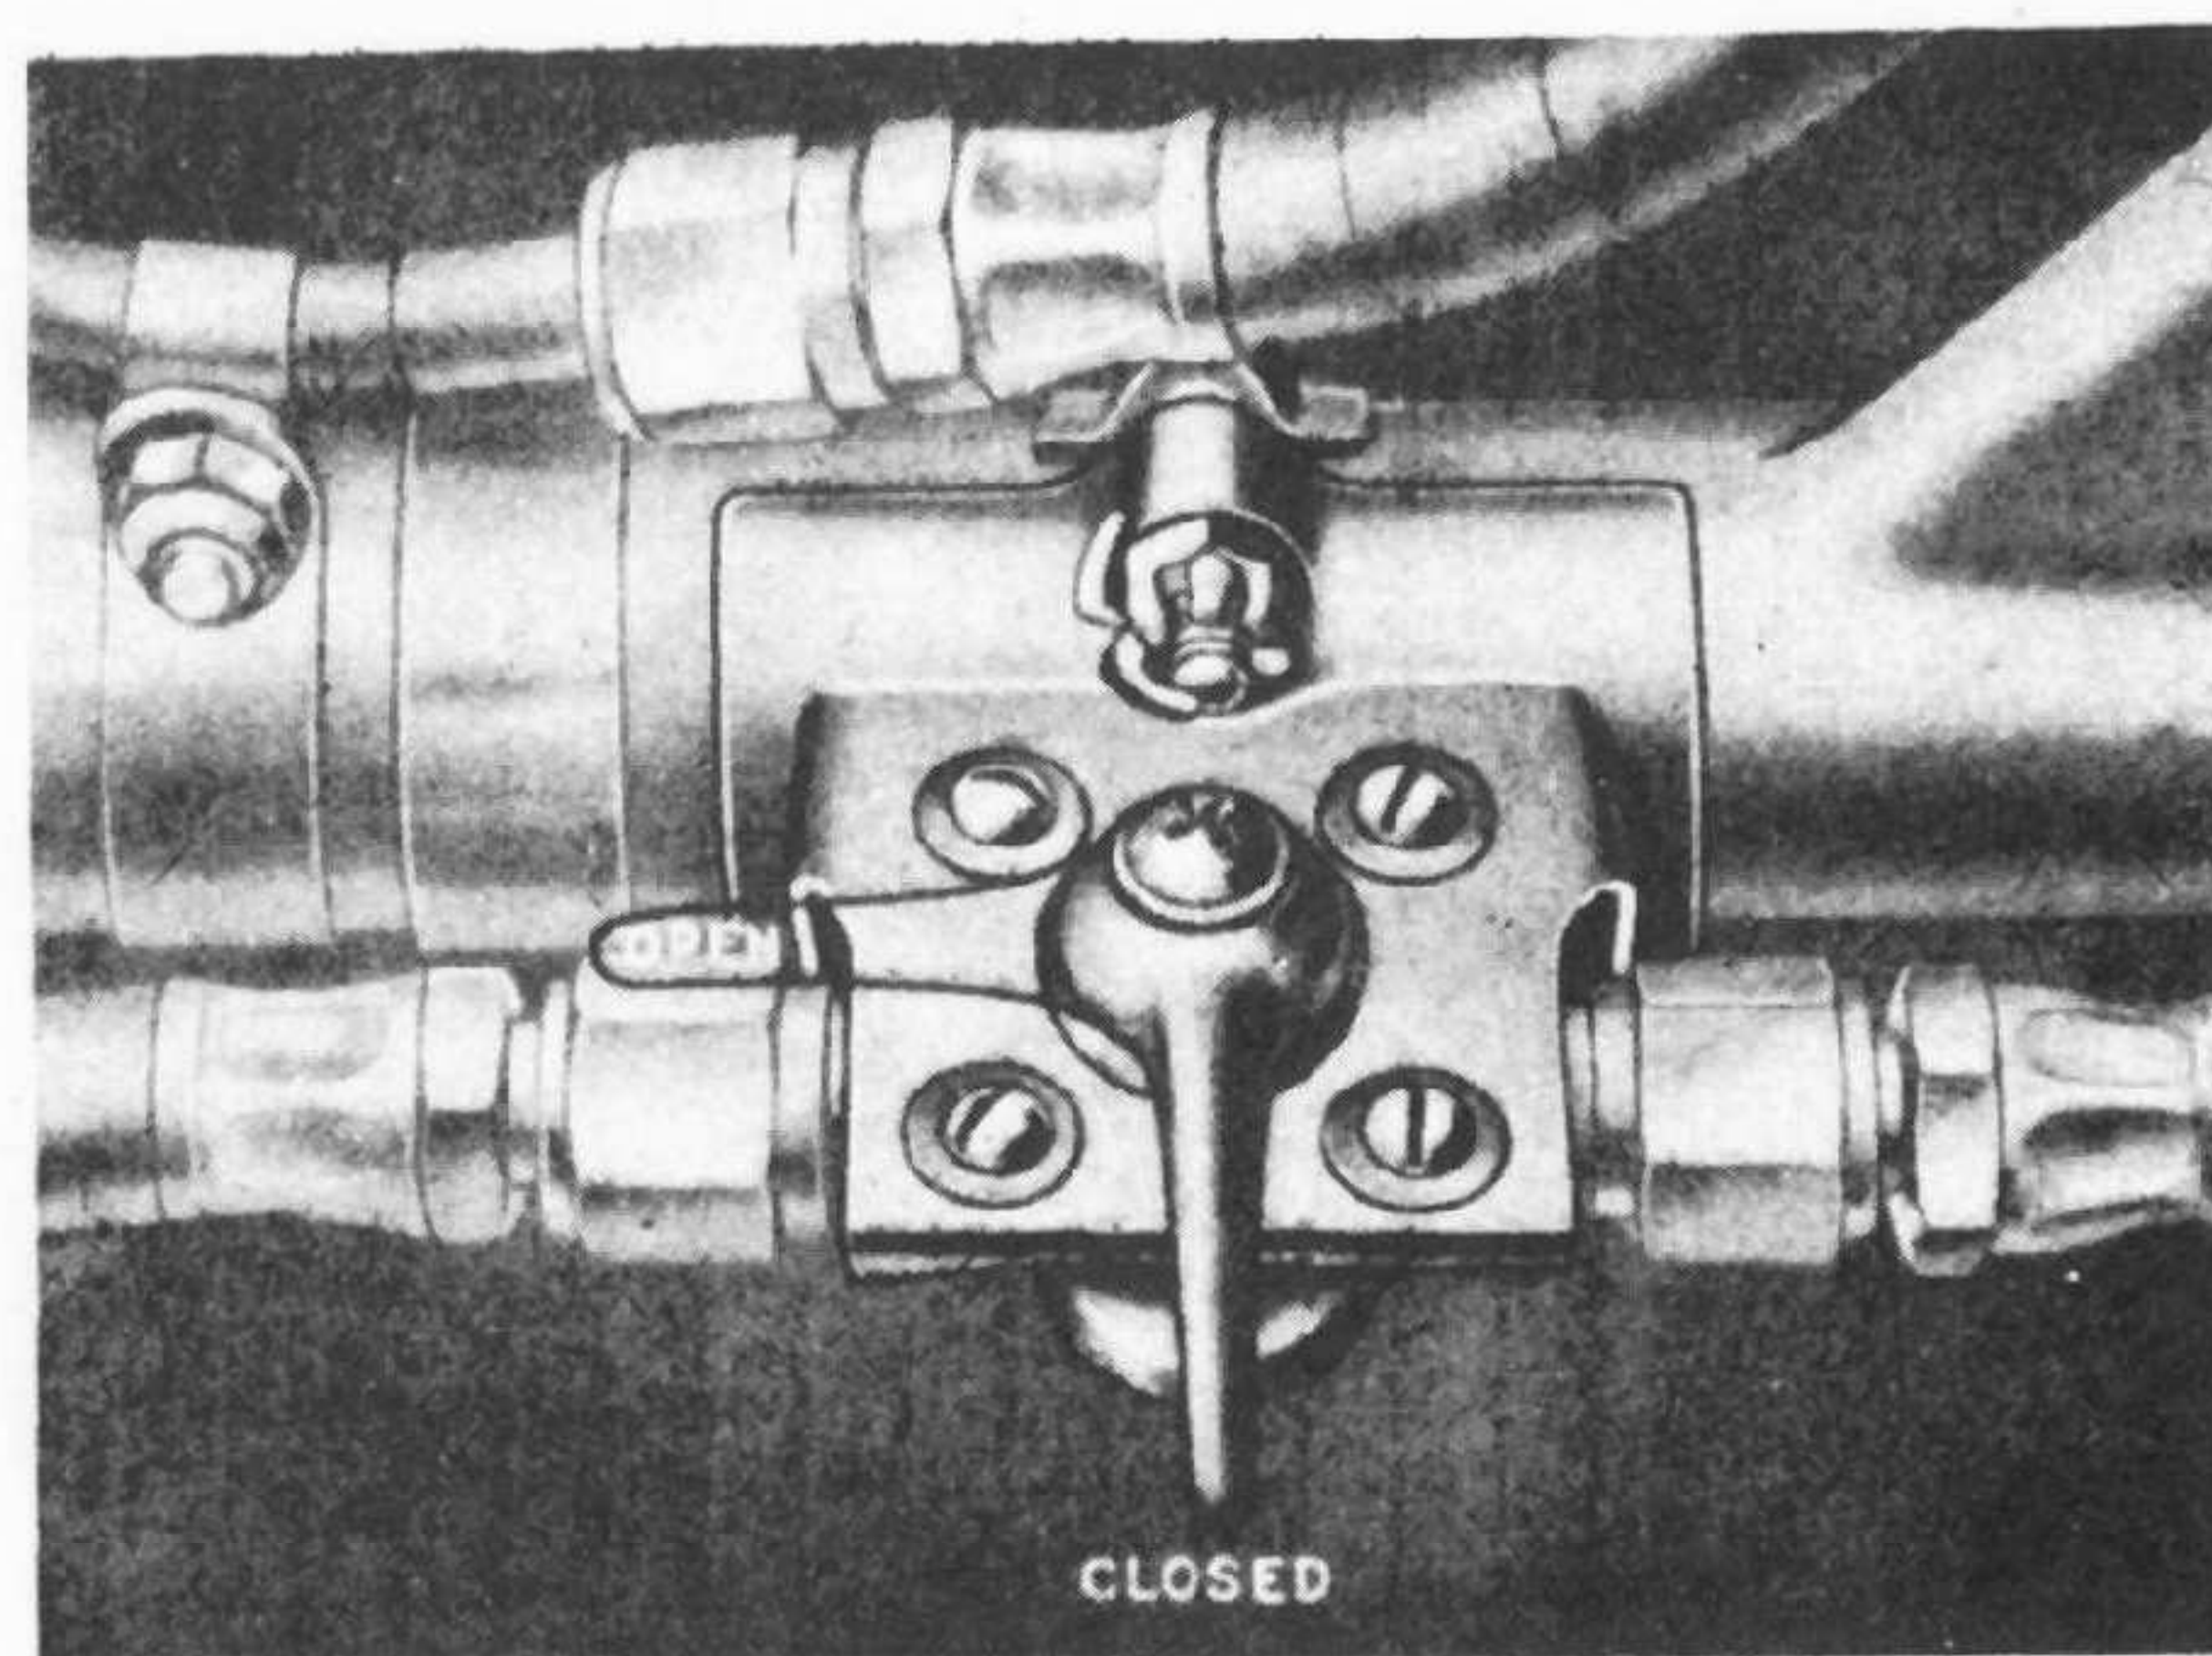

Fig. 28 — Oil Dilution Shut-off Valve
(1) Open the manual shut-off valve in the oil dilution line. This valve is located in the engine accessory compartment, just aft of the carburetor. Refer to figure 28.